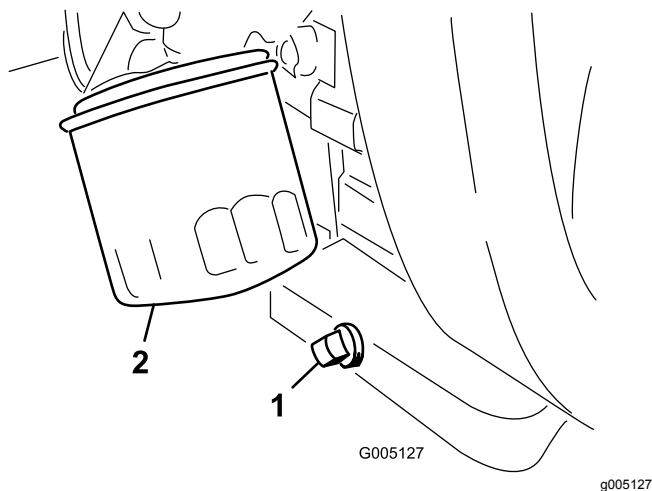

Figure 39
1. Remove the drain plug (Figure 39) and let the oil flow into a drain pan. When the oil stops, install the drain plug.
2. Remove the oil filter (Figure 39).